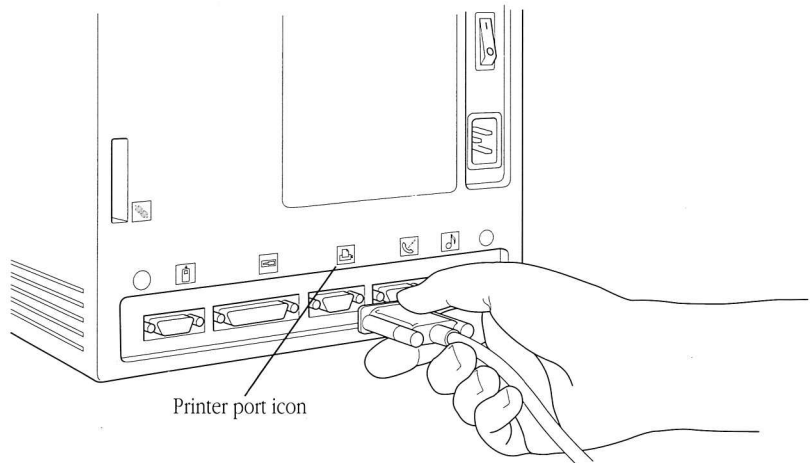

Figure A-3 Connecting the printer cable to the Macintosh printer port
3. Plug the connector into the Macintosh printer port. (See Figure A-3.) If another connector (such as LocalTalk) occupies the printer port, connect to the modem port.